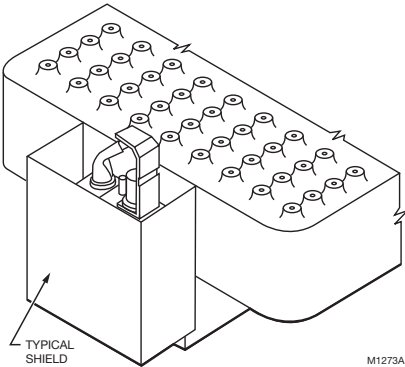

Fig. 5. Proper shielding of pilot flame.
3. If all mounting and location instructions are followed but pilot continues to go out, construct shielding to protect pilot flame from main burner ignition and extinction and drafts. See Fig. 5.